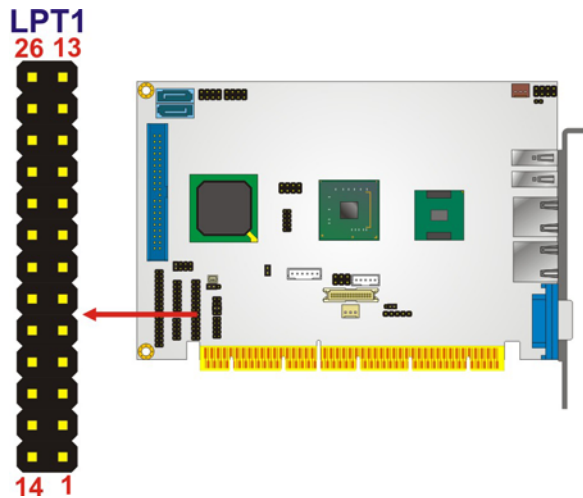

Figure 4-18: Parallel Port Connector Location
- CN Location:** See **Figure 4-18**